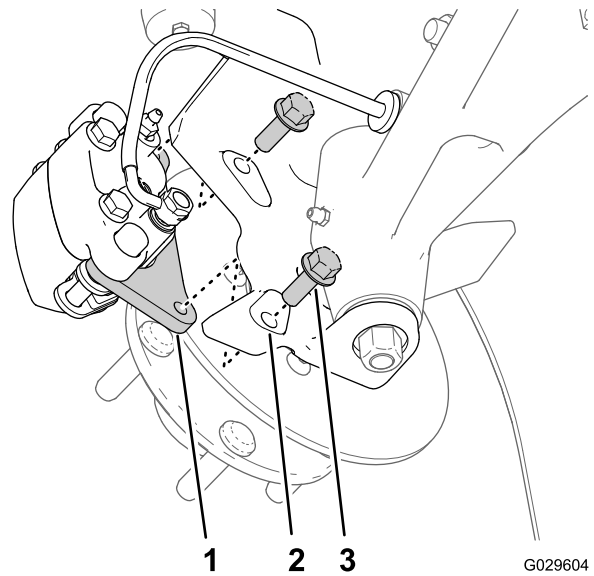
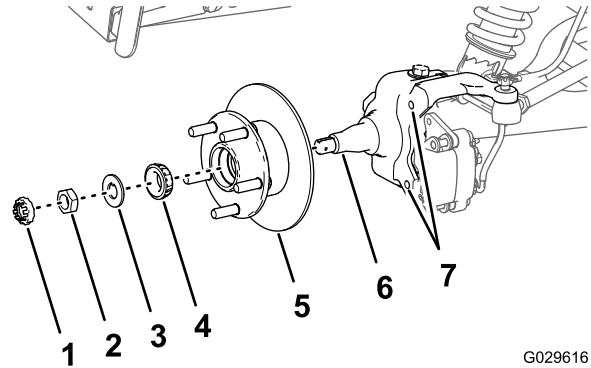

Figure 31
Figure 35
3. Remove the flange-head bolts (3/8 x 1 inch) that secure the bracket for the brake assembly to the spindle and separate the brake from the spindle (Figure 31).
1. Apply a light coat of the specified grease to the spindle (Figure 35).
2. Assemble the hub and rotor onto the spindle with the rotor inboard (Figure 35).
3. Assemble the outboard bearing onto the spindle and seat the bearing to the outboard race (Figure 35).
4. Assemble the tab washer onto the spindle (Figure 35).
5. Thread the spindle nut onto the spindle and tighten the nut while rotating the hub (Figure 35).
2. Align the brake pads to either side of the rotor (Figure 31) and the holes in the caliper bracket with the holes in the brake mount of the spindle frame (Figure 35).
3. Assemble caliper bracket to the spindle frame (Figure 31) with the 2 flange-head bolts (3/8 x 1 inch), and torque the bolts 47 to 54 N-cm (35 to 40 ft-lb).